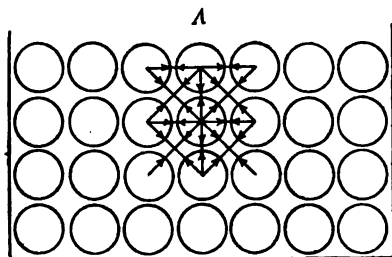

FIG. 14.—The molecule at *A* is held differently from one within the liquid.
**23. Explanation of the Surface Film.**—Beneath the surface of a liquid each molecule is attracted by all the other molecules around it. It is attracted equally in all directions. Consequently the interior molecules move very easily over each other in any direction. A molecule at the surface, as at *A*, Fig. 14, is not attracted *upward* by other liquid molecules. Its freedom of motion is thereby hindered with the result that a molecule at the surface